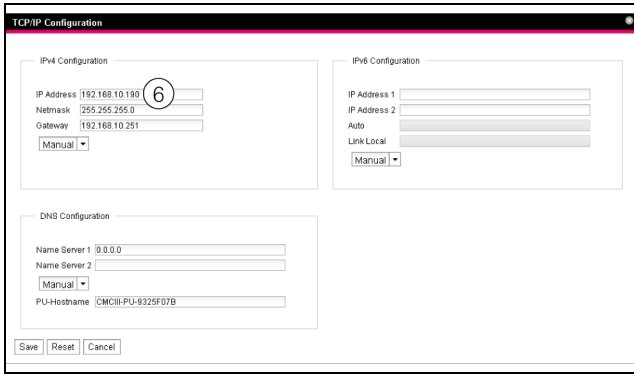

Fig. 89: Adjusting the TCP/IP settings
- In the TCP/IP Configuration window, change the device's IP address in the IPv4 Configuration group box to an address permitted in the network (fig. 89, item 6).